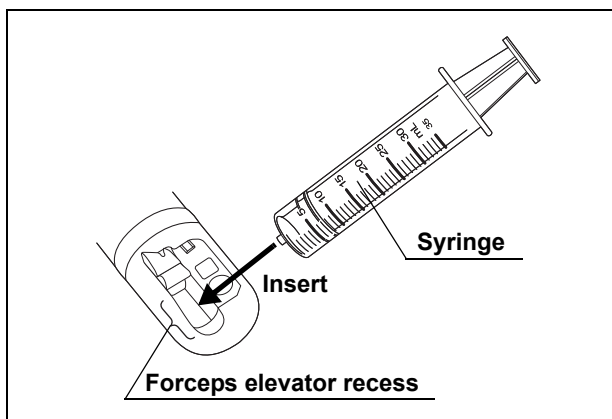

Figure 5.74
7. Raise the forceps elevator by turning the elevator control lever. Insert the tip of the 30 ml syringe into the interior of the forceps elevator recess under covering the cloth(s), and flush the interior of the recess with 30 ml of alcohol (see Figure 5.74).